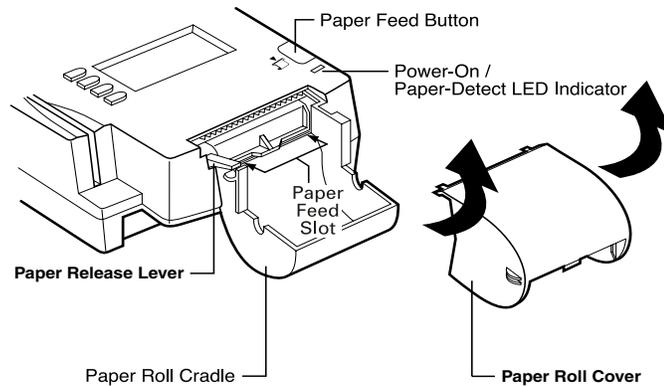

Figure 6 Thermal Printer Features
2. Remove the paper roll cover by lifting it up (Figure 6). Two ridges on the cover's sides show where to grasp it.
Note: To adjust paper position, lift the small red release lever on the cradle's right side (Figure 6, page 14) until it snaps "up." The paper now freely moves in the paper path. When the paper is correctly positioned, lower the lever until it snaps "down."
1. Remove the paper roll cover. Then, lift up the small red lever located on the paper roll cradle's right side until it snaps "up." (Figure 6, page 14). The paper can now move freely through the paper feed mechanism.